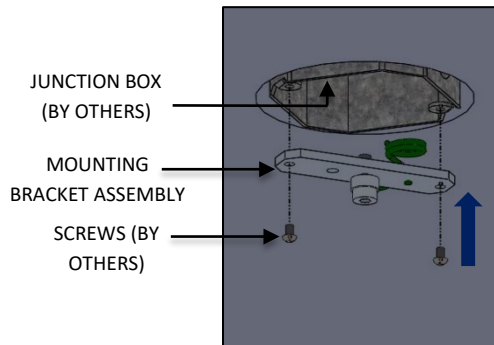

FIG. 14 – MOUNTING BRACKET ASSEMBLY INSTALLATION
11. Assemble the MOUNTING BRACKET ASSEMBLY to the JUNCTION BOX the fixture will mount to (by others) with screws (by others) as shown in below FIG. 14 below.